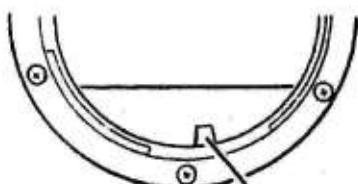

Fig. 145 ①
1. Lift up the Aperture Lever (L) of the Mirror Box Base Plate in the direction indicated by the arrow ④.
2. Turn the Aperture Ring of the Mount Base Ass' y in the direction indicated by the arrow ⑤. While holding the Aperture Ring in the position, install the Mirror Box Base Plate Ass' y. Secure it with the Mirror Box Base Plate Setscrews (61923026)×3, (61922026)×2.
- c) Make sure that the Aperture Ring is in the position indicated in Fig.145①. If it is in the position indicated by Fig. 146.① follow the above procedure from the beginning.